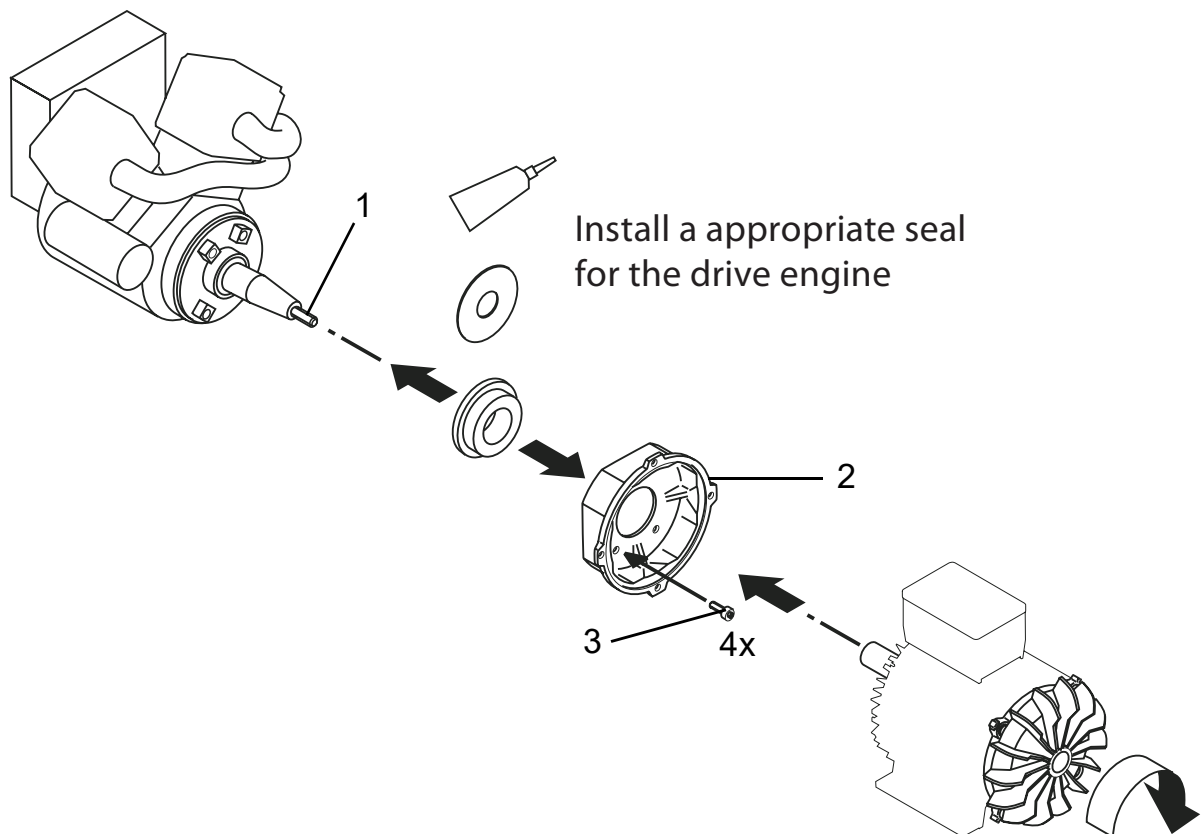

Fig. 11 Assembly of brushless single-bearing generators on the motor (1)
- ⇒ Fig. 11, Assembly of brushless single-bearing generators on the motor (1), page 47